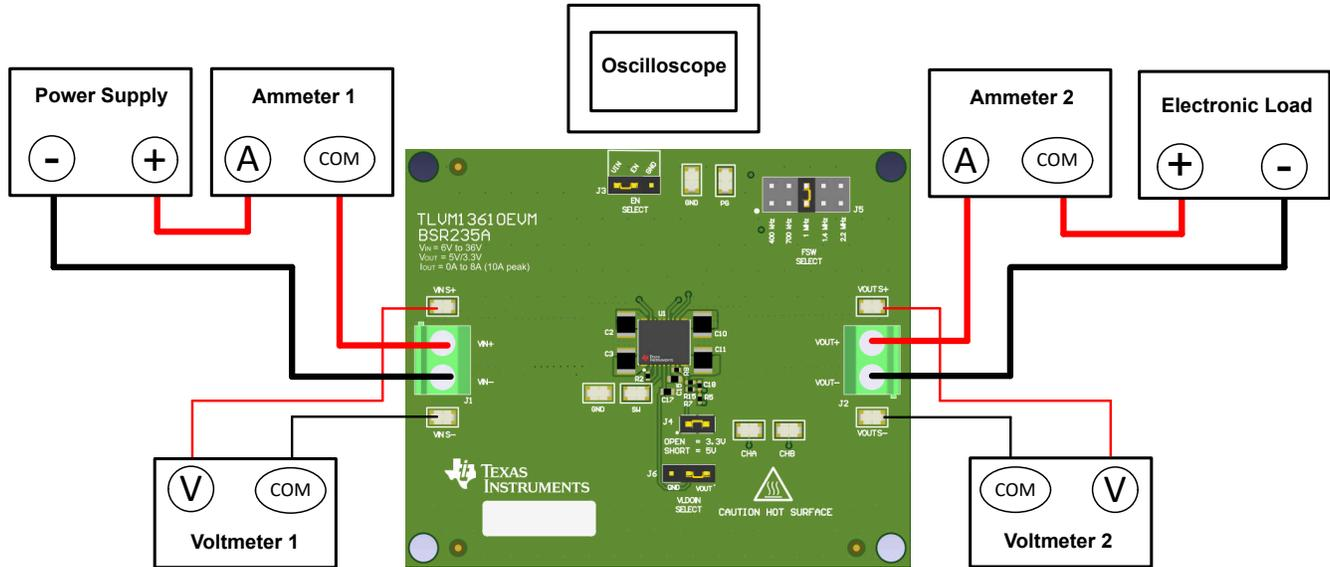

Figure 2-1. EVM Test Setup
Referencing the EVM connections described in Table 2-1, use the recommended test setup in Figure 2-1 to evaluate the TLVM13610. Working at an ESD-protected workstation, make sure that any wrist straps, bootstraps, or mats are connected and referencing the user to earth ground before power is applied to the EVM.
- Prior to connecting the DC input source, set the current limit of the input supply to 0.1-A maximum. Ensure the input source is initially set to 0 V and connected to the VIN+ and VIN– connection points as shown in Figure 2-1.
- Connect an electronic load to the VOUT+ and VOUT– connections as shown in Figure 2-1. Set the load to constant-resistance mode or constant-current mode at 0 A before applying input voltage.